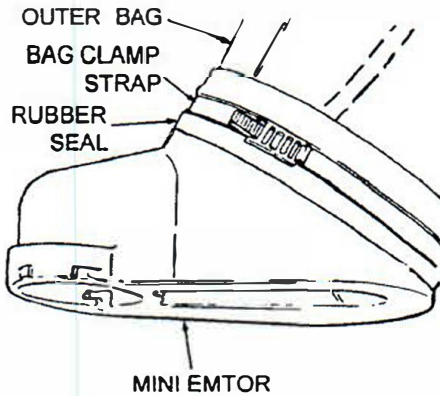

Figure 37. Bag Clamp Strap Position
- F. Install a bag clamp strap around and into the groove of Mini Emtor at lower edge of rubber collar. Raised cross bar lock of strap must face away from Mini Emtor. Lock connection must be positioned on the inside center wall of Mini Emtor and face right of motor. See Figure 37.